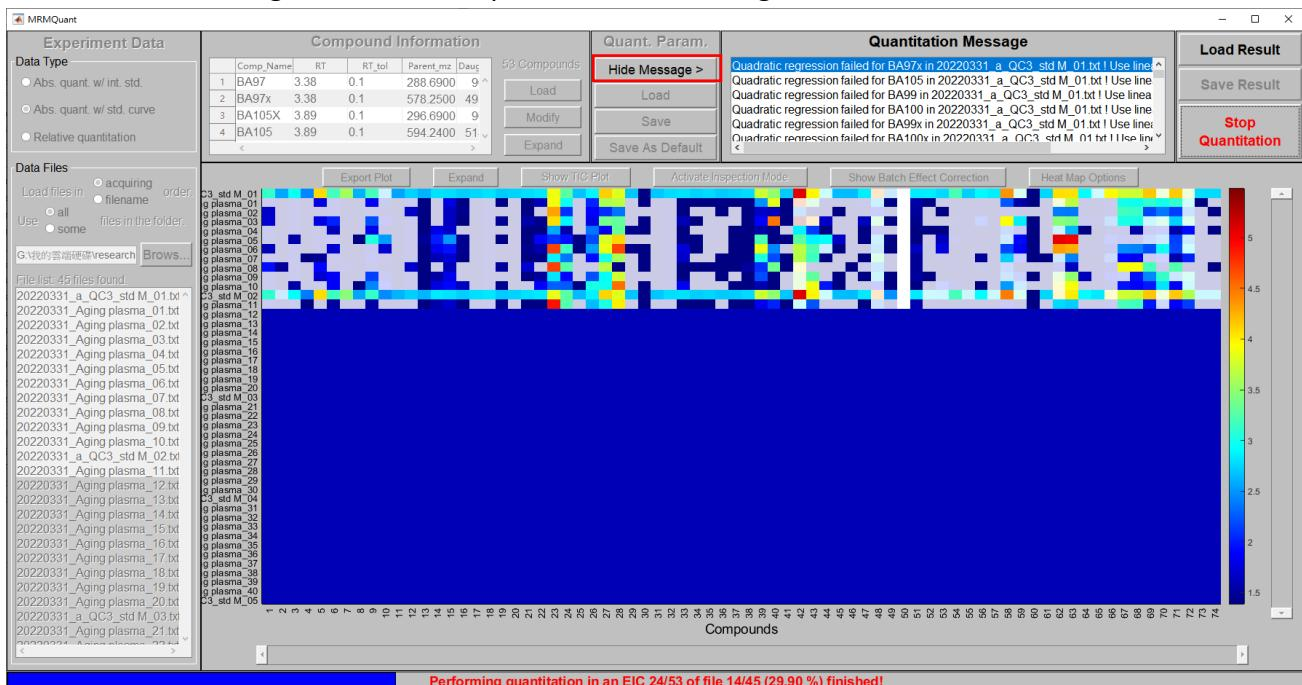

Figure 37. The “Quantitation Message” panel will appear to display a message reflecting the encountered problematic quantitation.
**12 Quantitation message:** During the quantitation process, the “Quantitation Parameter” panel will be minimized, the “Show Message <” button will be renamed as “Hide Message >”, and the “Quantitation Message” panel will be revealed, as shown in Figure 37. This message panel is mainly designed to display a message reflecting the encountered problematic quantitation, for example, unsuccessful in peak tracing (saturated peaks, irregular peak shapes), deconvolution, standard curve generation (no suitable quadratic curve), etc. Such messages will also be saved to the output file when the quantitation result is exported. The user can determine whether to correct the quantitation of the corresponding compound using the “Multiple Reaction